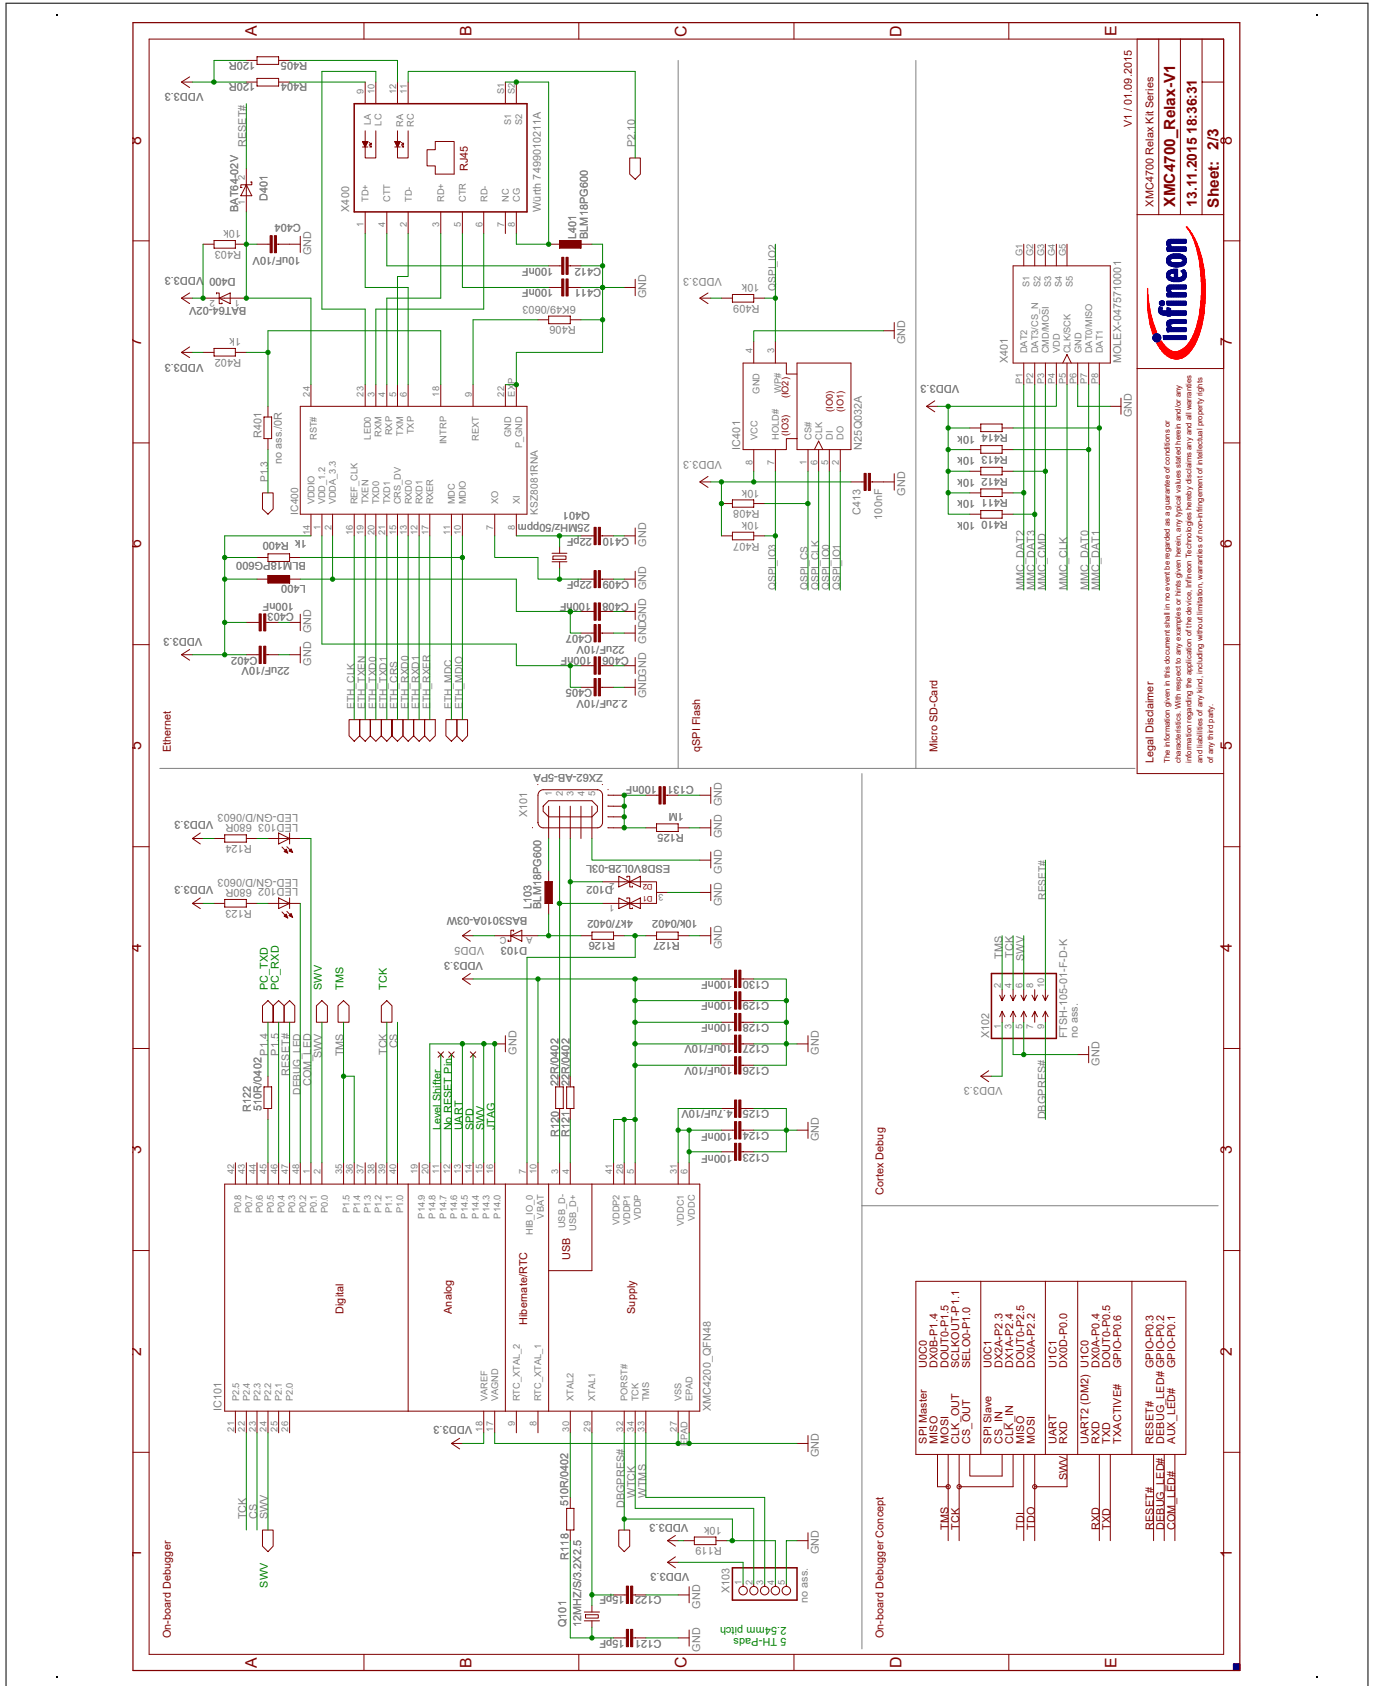

Figure 10 Relax Kit Schematic: OBD Probe, Ethernet, Quad-SPI Memory, microSD Card Slot
- Figure 10: Relax Kit Schematic: OBD Probe, Ethernet, Quad-SPI Memory, microSD Card Slo